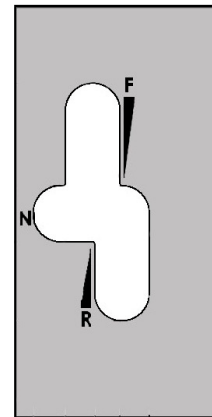

FIG. 38-3
3. To move forward, slowly push the hydrostatic lever forward. The farther the control lever is moved, the faster the sprayer will travel and the RPM 's will increase (fig. 38-3). To stop, slowly pull the lever to the "N" neutral position.